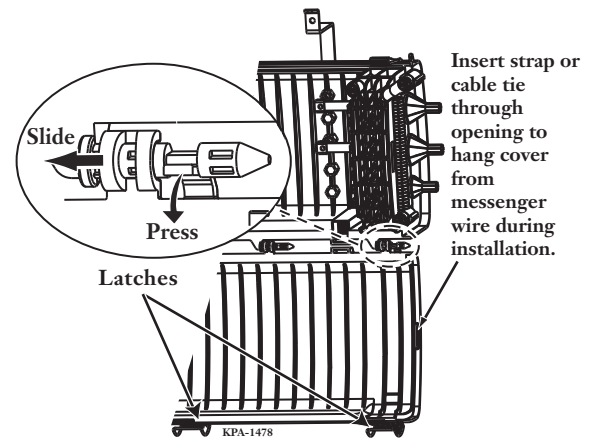

Figure 5 — Release Lever
- Step 2:** The cover can be removed, if desired. Press gently on the plastic release lever shown in Figure 5 and slide the cover to the right. Insert a hook-and-loop strap or large cable tie through the hanging opening on the cover and hang the cover from the messenger wire. Align the appropriate holes in the hanging bracket with the holes on the bottom shell to allow the necessary distance between messenger wire and terminal.